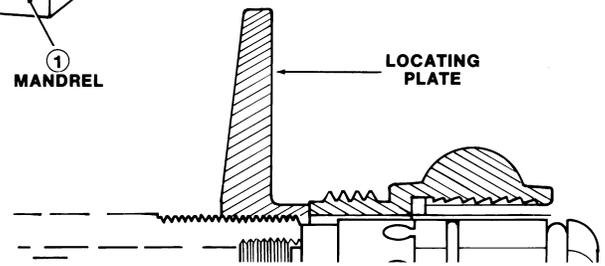
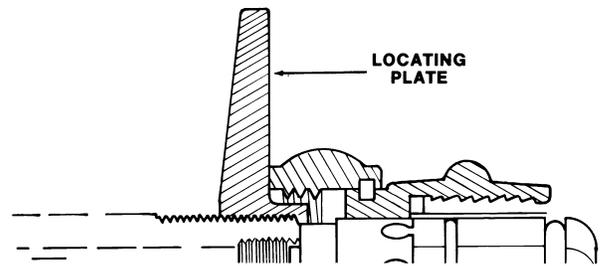

Fig. 2
Fig. 3
8. Facing the Expansion Unit. Turn locating plate away from operator to the end of the thread. Slip coupling male or female **without hose bowl gasket** over segments. Expand segments with the expander until they **do not quite touch** the coupling hose bowl. (see Fig. 2). Pull the coupling back until it hits the expanded segments, turn the locating plate away from the coupling face 3/4 turn. The locating plate will then properly locate couplings of similar type relative to the segments for good expansion. The expander is now ready to attach couplings.
Note: Fig. 2 shows male part of coupling in relation to locating plate. Fig. 3 shows female part of coupling in relation to locating plate. The male and female parts shoulder against different areas on the locating plate.